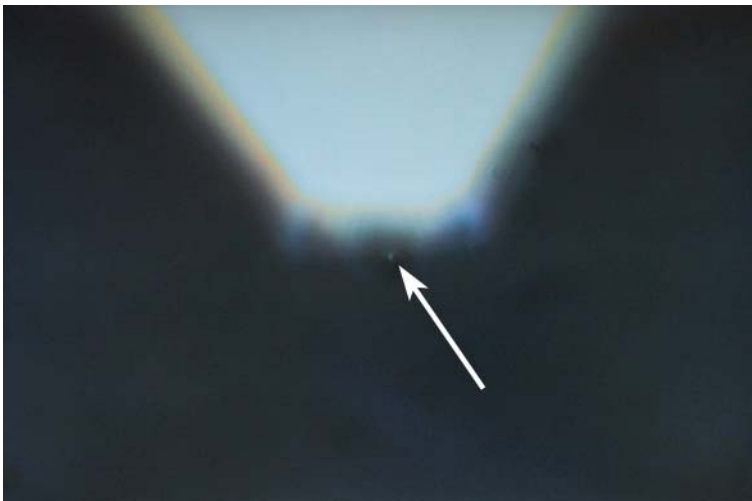

Fig. 10-33. Objective focused on the tip apex
5. Turn the screw for fine focusing of the lens counterclockwise until the specific image of the tip apex (bright point) appears. This shifts the objective focus from the cantilever to the tip apex (see Fig. 10-33).